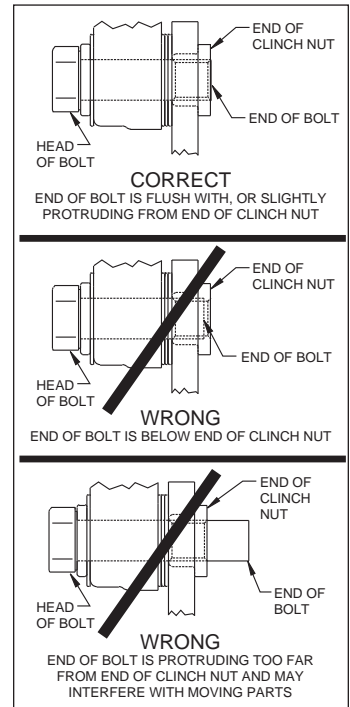

Figure 4. Clinch Nut Engagement Diagram
**Assembly Instructions** (numbers in parenthesis refer to the parts list and Figures 1 and 2 on the preceding pages): **CAUTION:** All mounting bolts must fully engage clinch nuts. Be sure to check that all bolts are either flush or protruding through flanged side of clinch nut after shimming, Figure 4.
- **NOTE:** This kit contains distinct right and left hand calipers that must be mounted in a specific direction, as described below. Lubricate the caliper mounting studs (24) with lightweight oil. Initially place two .035" thick shims (25) on each stud between the caliper and the bracket, as shown in Figure 1 and Photo 10. Mount the caliper (21) onto the bracket (17) using lock nuts (22) and washers (23), Figure 1. Ensure that the caliper is mounted so that the largest pistons are at the rotor exit end of the caliper, in relation to the direction of rotor rotation. Temporarily tighten the lock nuts and view the rotor through the top opening of the caliper. The rotor should be centered in the caliper, Photo 11. If not, adjust by adding or subtracting shims (20) between the caliper bracket and the spindle bracket. Always use the same amount of shims on each of the two mounting bolts. **NOTE:** The end of each bolt must be flush with or slightly protruding from the head of the clinch nut, as shown in Figure 4. If necessary place spare shims between washer (19) and caliper mounting bracket (17) to achieve the proper clinch nut engagement. Once the caliper alignment and clinch nut engagement are correct, remove the bolts (18) one at a time, apply red *Loctite*® 271 to the threads, and torque to 60 ft-lb.